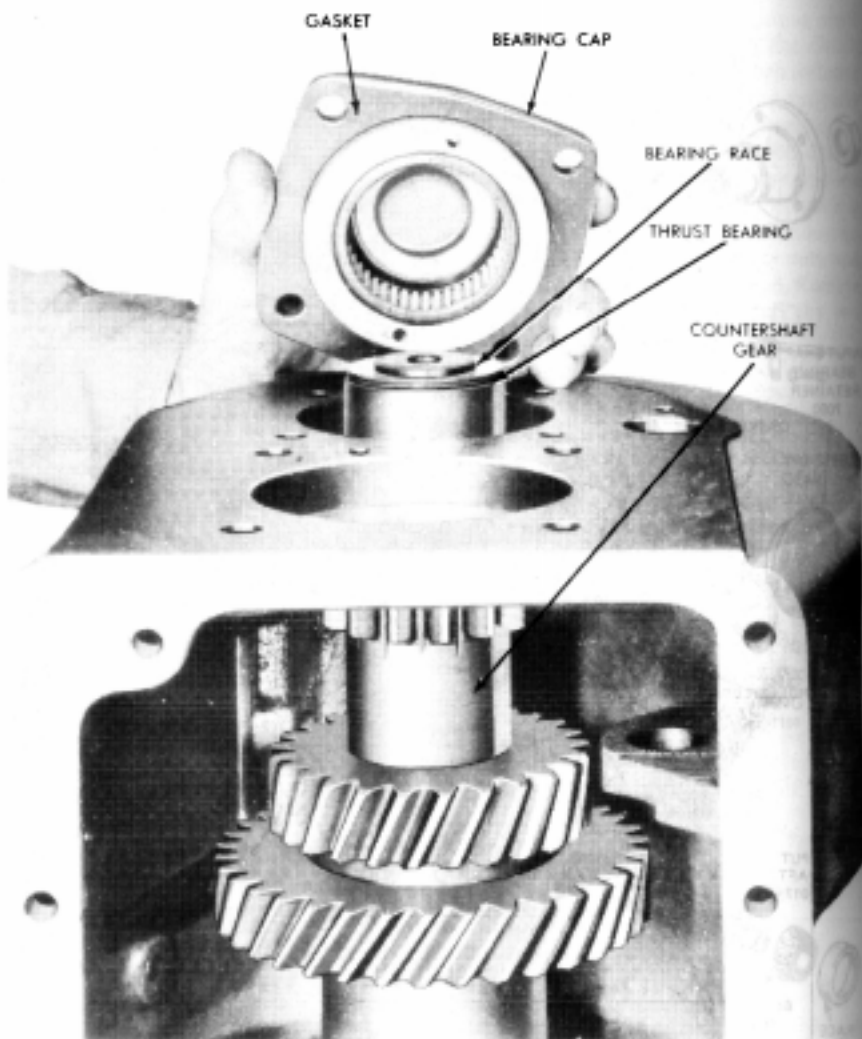

FIG. 9 Removing or Installing Countershaft Rear Bearing
12. With the front of the transmission in the downward position, remove the attaching bolts from the countershaft gear rear bearing cap. Tap the cap with a soft-faced hammer to free it from the case. Remove the cap, race thrust bearing, and gasket (Fig. 9). Lift the gear from the case.
5. Place the rear thrust bearing and then the bearing race on the rear of the countershaft gear (Fig. 9).